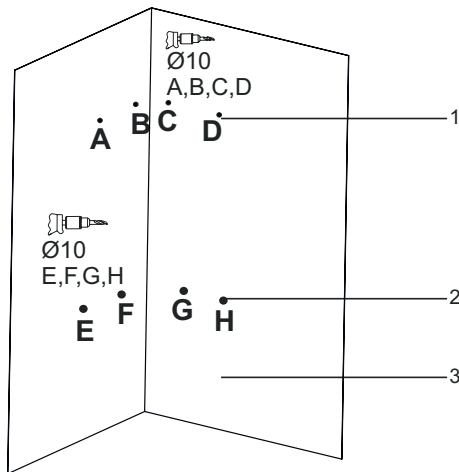

Fig. 12
- Drill the installation surface at A,B,C,D hanger plate connection points and E,F,G,H body connection points with Ø10 mm drill (Fig. 12).
- Place the Ø10 mm plastic dowels to the points drilled (Fig. 12).
- Screw the product body from E,F,G,H points and completely fix it (Fig. 12).